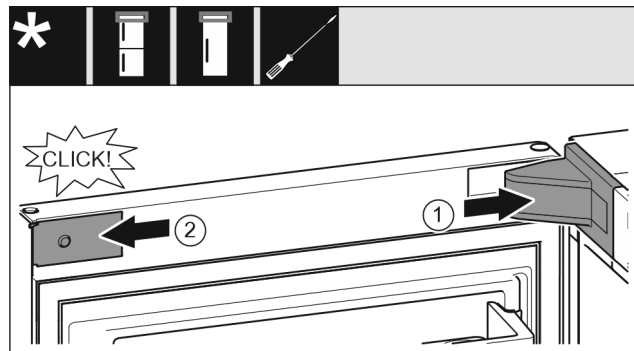

Fig. 21
- Position the bearing bracket and latch it in place. If necessary push it apart carefully. Fig. 21 (1)
- Position the panel on the side and latch into place. Fig. 21 (2)